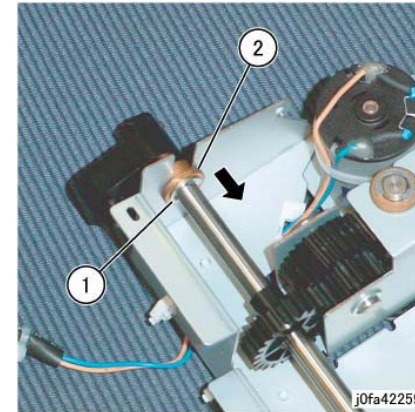

Figure 8 Moving the Bearing
- 13. Move the Bearing (Figure 8):